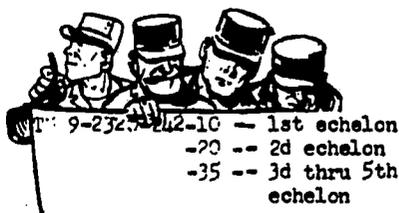

Fig 3-1. The last two digits indicate the echelon for which the technical manual is intended.
To perform a compression test, you must first know how much compression the engine should produce. Check the technical manual (TM) for second echelon maintenance of your vehicle. This TM will give you the specifications you need. The last two digits of the TM number indicate the echelon of maintenance for which the TM is designed (fig 3-1).